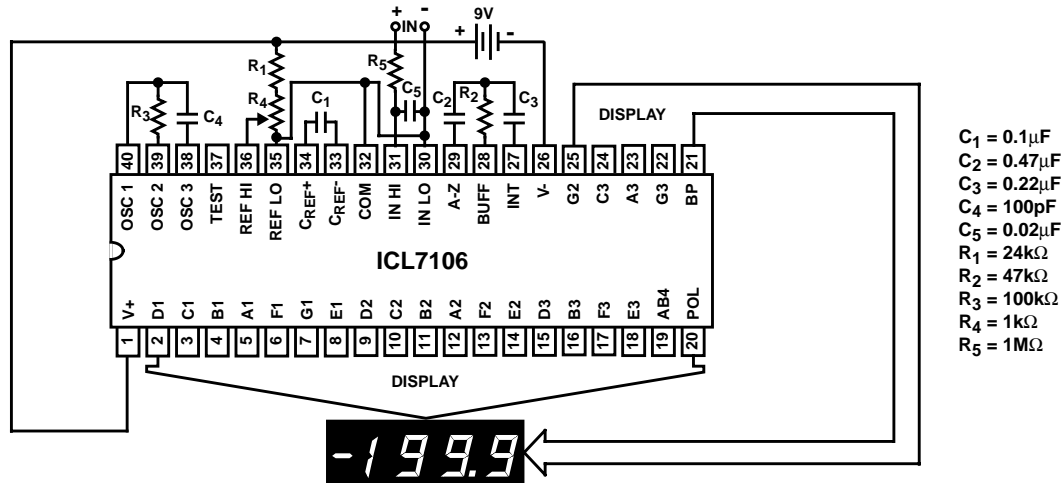
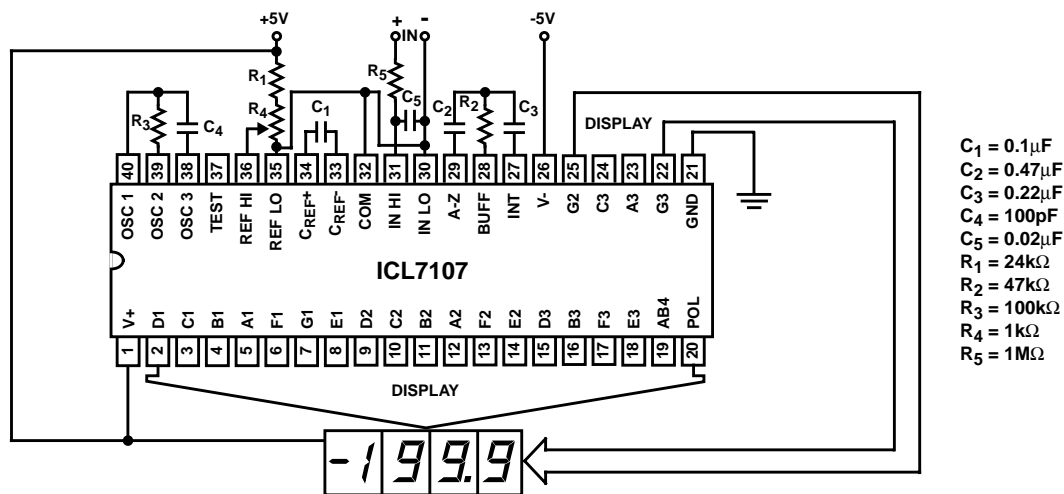

FIGURE 1. ICL7106 TEST CIRCUIT AND TYPICAL APPLICATION WITH LCD DISPLAY COMPONENTS SELECTED FOR 200mV FULL SCALE
FIGURE 2. ICL7107 TEST CIRCUIT AND TYPICAL APPLICATION WITH LED DISPLAY COMPONENTS SELECTED FOR 200mV FULL SCALE
- Unless otherwise noted, specifications apply to both the ICL7106 and ICL7107 at $T_A = 25^\circ\text{C}$, $f_{\text{CLOCK}} = 48\text{kHz}$. ICL7106 is tested in the circuit of Figure 1. ICL7107 is tested in the circuit of Figure 2.